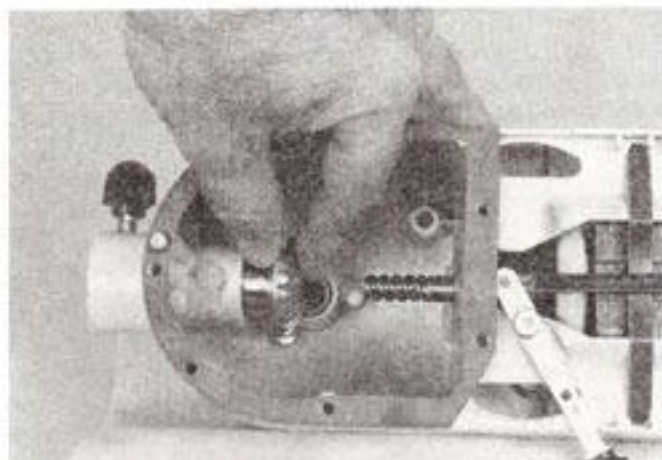

Fig. 52
- B. Examine the attachment hub bevel gear. If it shows wear in the teeth, it should be replaced. To replace the bevel gear, coat the shaft with a film of good oil. Push it into the attachment hub bearing from inside the gear case (Fig. 52). It does not have a washer, so push it in as far as it will go.